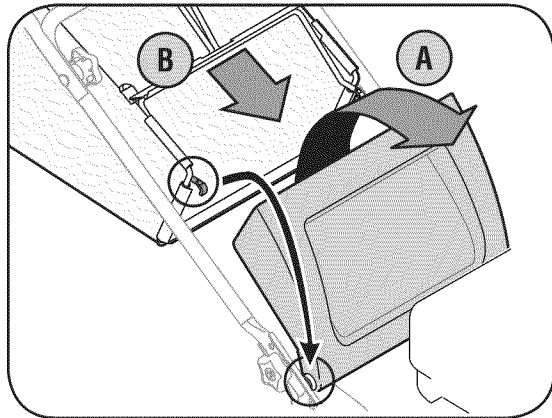

Figure 3-6: Lift discharge door and place grass catcher on rod.
7. Follow steps below to install the grass catcher. Refer to Figure 3-6.